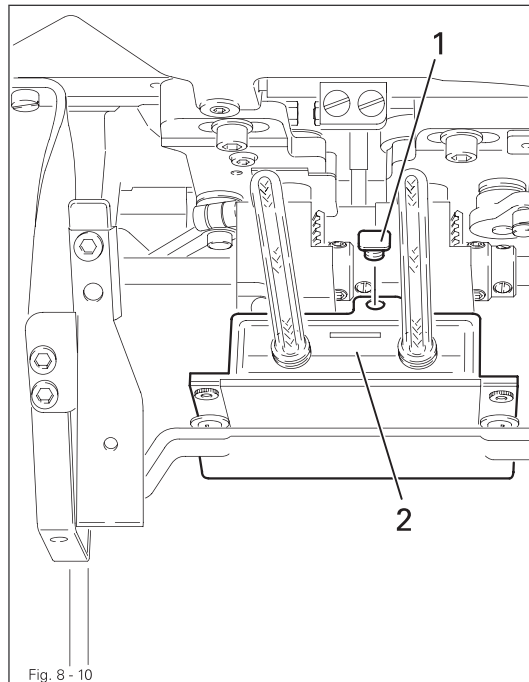

Fig. 8 - 10
- Remove pin 1 of the oil reservoir 2 (Fig. 8 - 10). The pin serves only to protect the machine from damage during transport and must not be used when sewing.